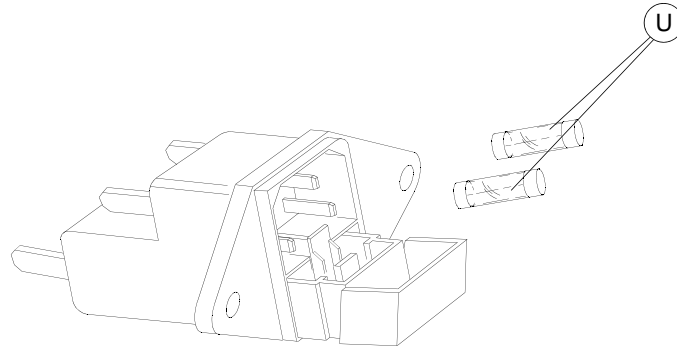

Fig. 18
- 2) remove the fuses box placed below the key-cutting machine socket (fig.18)
- 3) replace the fuses (U).